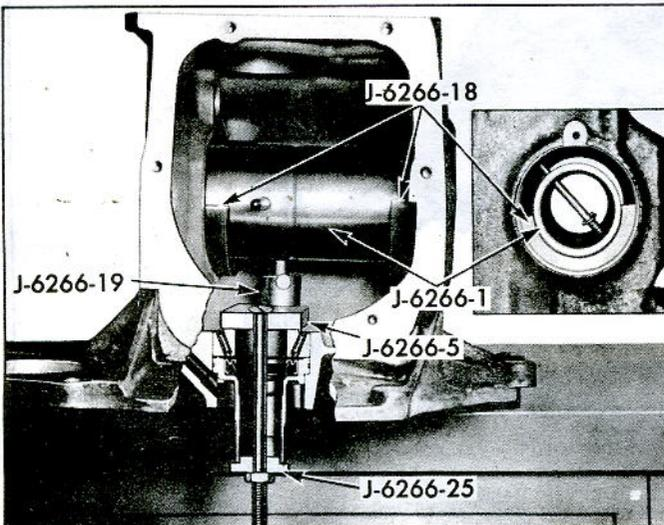

Fig. 19—Pinion Depth Shim Selection Gauge—Installed Views
- With the differential carrier mounted as illustrated in Figure 19, place pinion rear bearing to be used in assembly in carrier and rotate several times to be sure the bearing is seated.